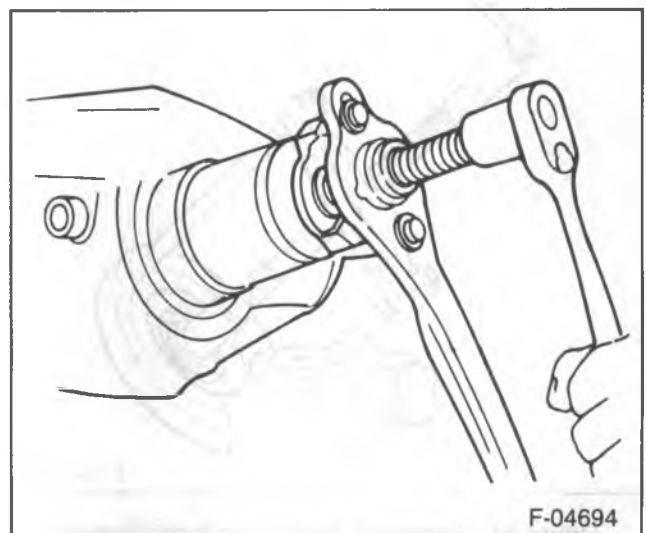

Figure 54—Removing the Pinion Flange
17. Pinion flange (10) using J 8614-01 (figure 54).